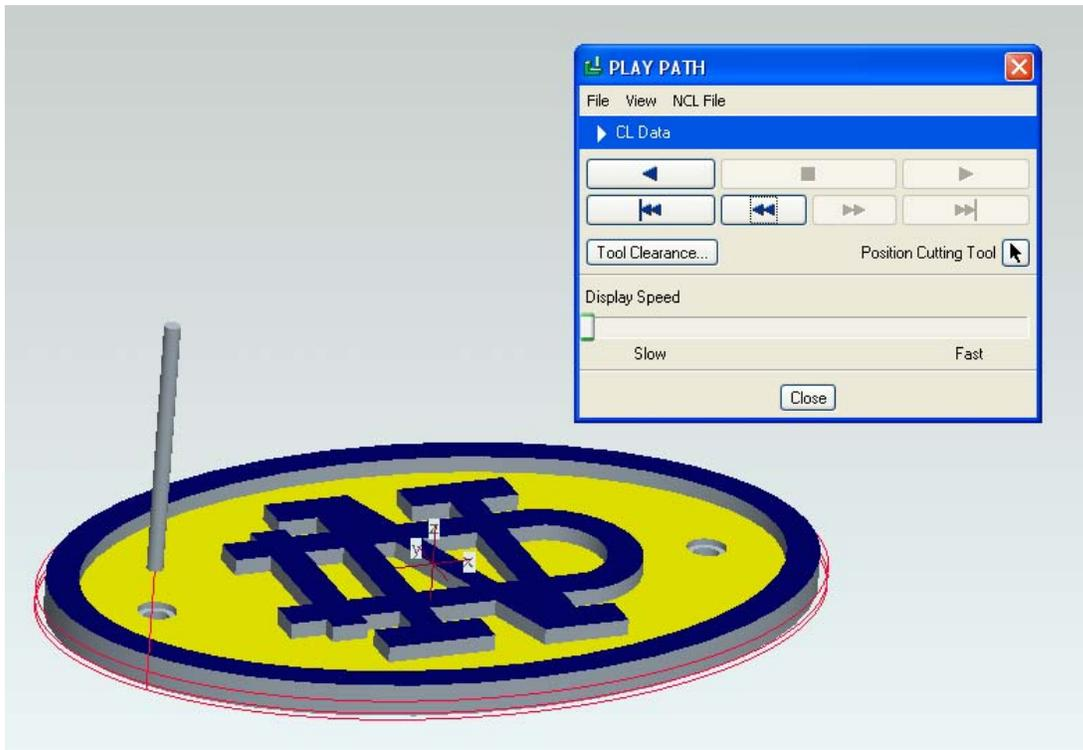

Figure 15: Toolpath for profiling around the logo part.
- Step 12:** Choose PLAYPATH >> SCREENPLAY and see that the tool profiles around the edges selected (Figure 15).